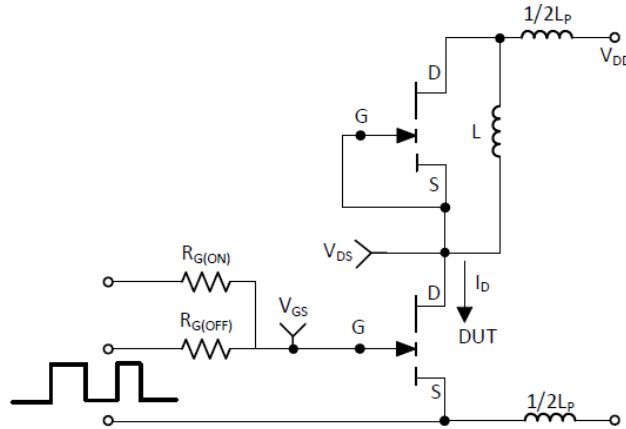

Figure 16: Switching Loss Test Circuit
(5) L_p is the switching circuit parasitic inductance.
(6) See Figure 16 for switching loss test circuit.